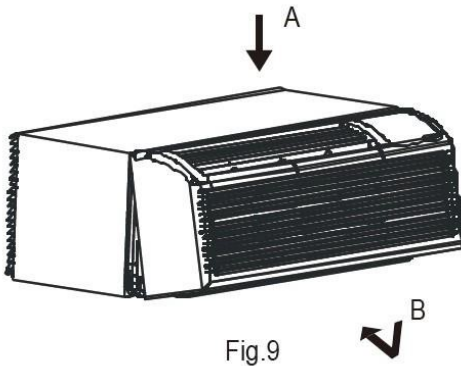

Fig.9
- Reinstall front panel. (See Fig. 9) Place tabs over top rail (A). Push inward at bottom until panel snaps into place (B).